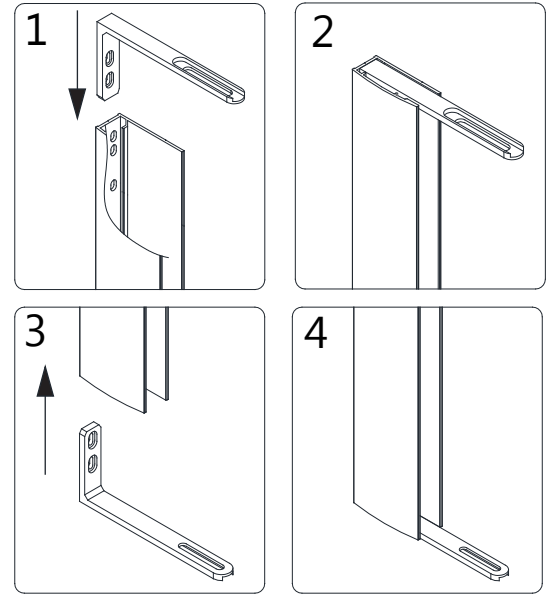

Fig 2
2. Separate the **Pivot Retainers (#08)** from the **Pivot Assemblies (#07)** by removing the **Round Head Socket Bolt M6×12 (#17)**. Insert the **Pivot Retainers (#08)** into both ends of the **Wall Profile for Pivot Side (#01)**. (Fig 2)